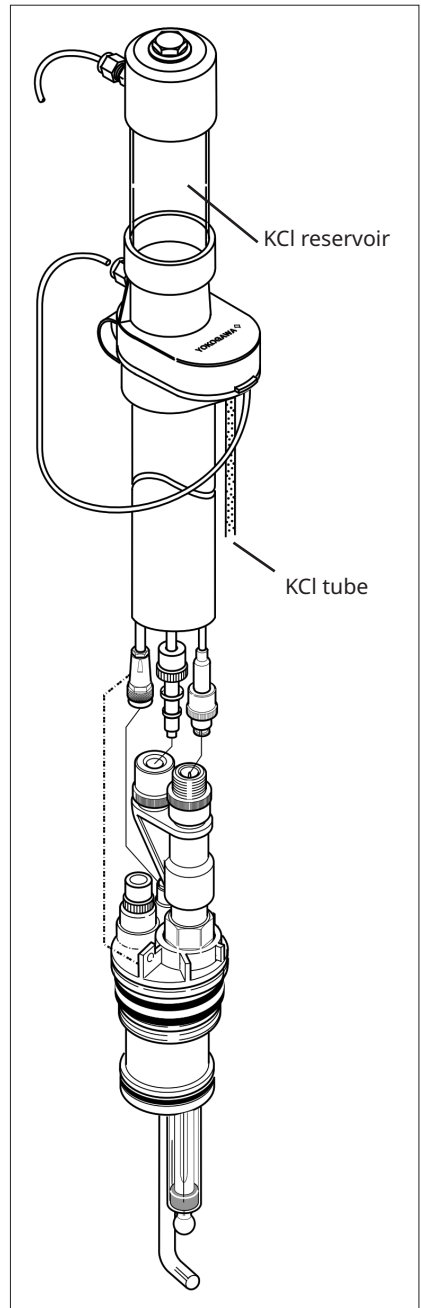

Figure 16: Connection of KCL tubing
5. Connect the other end of the tube at the KCl reservoir which should be placed on the top of the rubber cap (see fig. 16). This causes a hydrostatic pressure on the KCl solution and therefore a positive outflow of KCl through the diaphragm of the electrode.